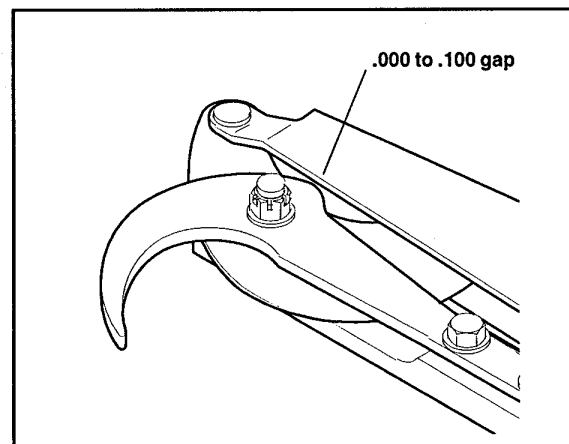

Figure 3.
26. Push on the link bar until the knife blade is in the full open position and the link bar is over the slide head and contacting the hook. See figure 3. While maintaining the knife blade in this position, rotate the external tube assembly in or out until the hole in the slide link bolt is aligned with the hole in the link bar. Continue to adjust the rotation of the external tube until a gap of .100 or less exists between the slide head and the hook and the hook is in line with the trigger guard. Install the clevis pin (40) and cotter pin (36). Hard Tighten the lock nut (27) against the external tube assembly.